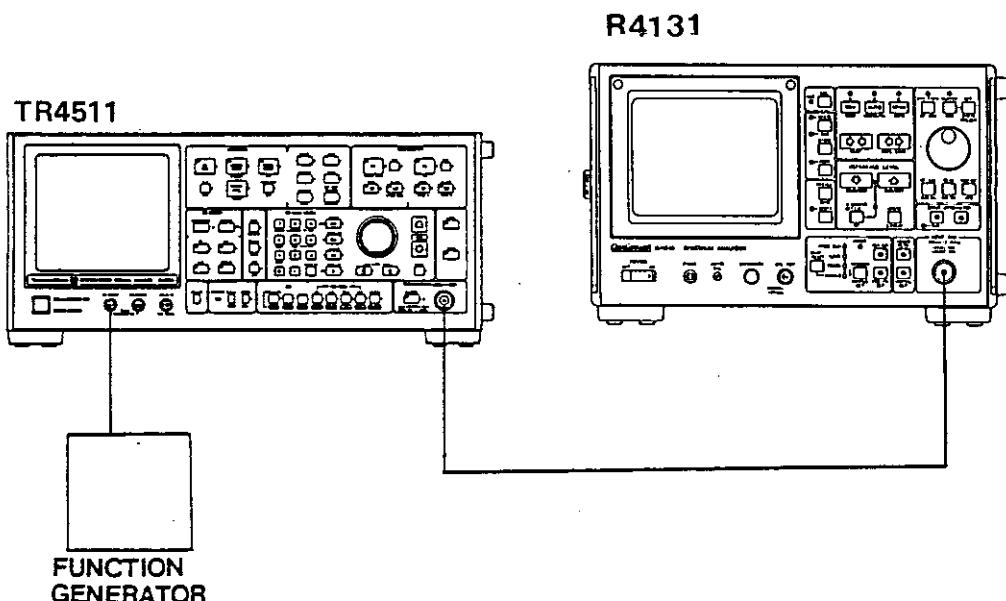
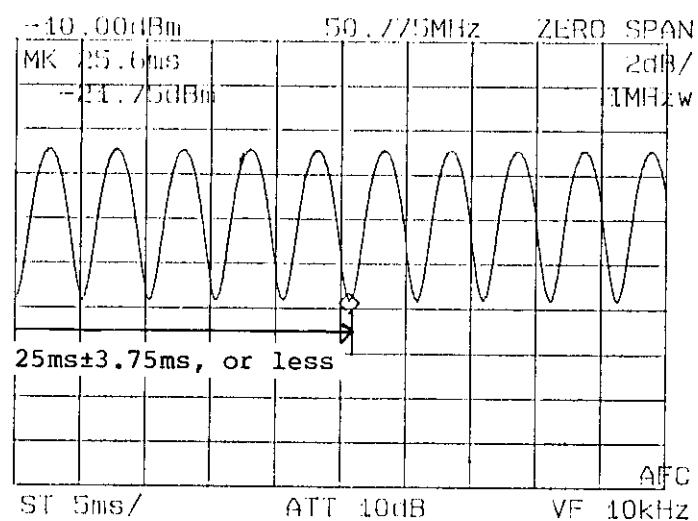

Figure 11-23 Sweep Time Accuracy Test Setup
Figure 11-24 Sweep Time Accuracy Test
② Set the output frequency of the synthesized signal source to 50 MHz, -10 dBm, EXT AM mode.
③ Set the function generator to generate sine waves at 200 Hz  $\pm 0.5\%$ .
④ Connect the instruments as shown in Figure 11-23. Turn the R4131 TUNING dial to position the signal in the center of the display screen. Further, set the frequency span to zero span and adjust the TUNING dial to obtain the maximum signal level.
⑤ Adjust the function generator output level to obtain demodulated waves in the order of 3 DIVp-p.
⑥ Adjust the reference level to position the signal at an easily viewed position on the display screen.
⑦ Set the TRIGGER MODE switch to VIDEO.
⑧ Set the sweep time/division to 5 ms and store the resultant waveform. Check that five periods of the demodulated waves have a duration of 25  $\pm 3.75$  ms, or less. (See Figure 11-24)
⑨ Similarly, test other sweep time/division with the settings specified in Table 8-11.